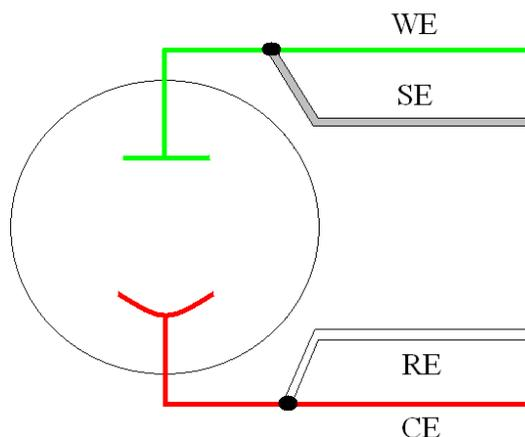

Figure 6. Two-Electrode Connection
- Green – Working (WE) electrode lead. This lead connects to the electrode of interest at which the desired reactions will occur. The current (I) is measured through the WE.
- Red – Counter (CE) electrode lead. This lead connects to the electrode opposite the WE and controls the power output of the VersaSTAT 4.
- Gray – Sense (SE) electrode lead. This usually connects to the working electrode (the combination often referred to as the working-sense), and is a component of the differential amplifier that measures/controls the voltage between itself and the reference electrode.
- White – Reference (RE) electrode lead. This connects to the reference electrode, a component of the differential amplifier that measures/controls the voltage between itself and the sense electrode.
a) Batteries, capacitors, resistors, fuel cells, and some sensors are generally connected using a two-terminal connection (Figure 6). Also, **the external dummy cell for the VersaSTAT 4 connects in this manner (see section 3.3.3)**. The connectors for the cable leads are designed to allow easy interconnection of the working/sense and reference/counter leads. **Note:** If your cell has low impedance (battery) and/or your experiment generates currents in excess of 100mA, do not connect the leads into one another for a two-terminal connection. Instead, connect the leads independent of one another to their proper terminal at the cell to prevent voltage offsets that can result from milliohms of contact resistance in a “piggy-back” connection as shown below.